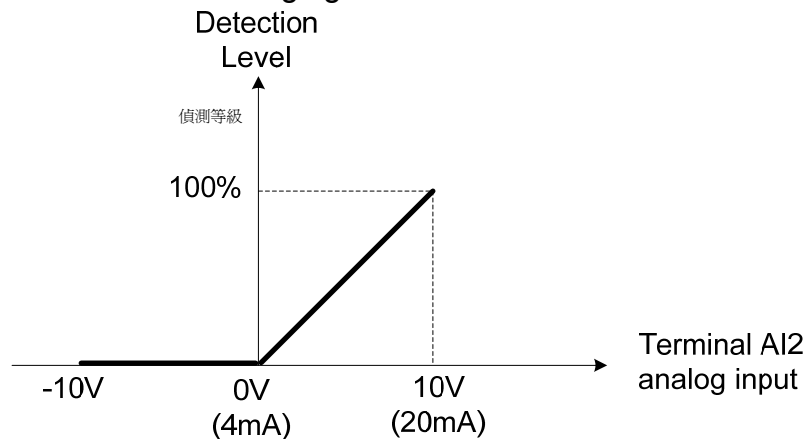

Figure 4.3.45 Over-torque/less torque detection level adjustment
(7) Over-torque detection level (setting = 6).
- . Please refer to the following figure 4.3.45.